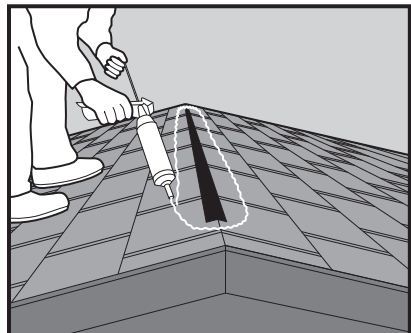

Fig. 2
1) With the shingles installed and the slot opening exposed, install a bead of asphalt roofing cement 3 inches below the vent slot opening on each side of the ridge, and at each end. The sealant should run the entire length of the ridge and should "picture frame" the slot. This will help fill in any gaps between the vent and the shingles, particularly when using laminate shingles. See Figure 2.